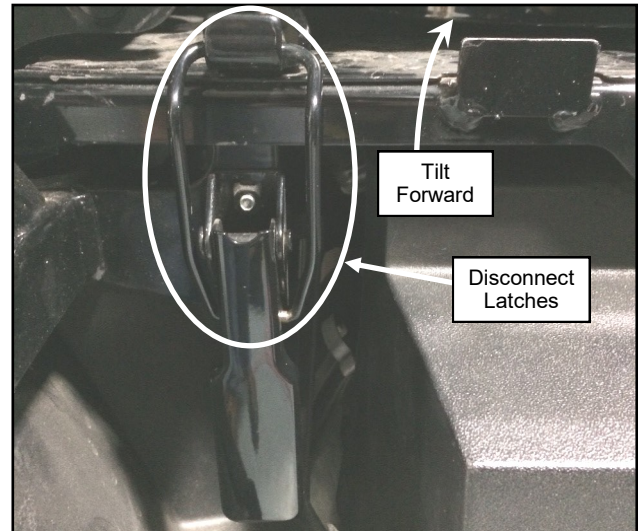

Fig. 2.1 (Tilt Seat Forward, Pro-DXT)
- 2.1** Disconnect the (2) latches on either side of the vehicle in front of the bed and tilt the back seat bottom forwards per fig 2.1.